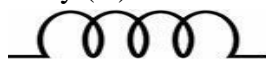

Fig. 1.5: Symbol of Inductor
When current flows through a coil, it generates a magnetic field. This magnetic field reacts so as to oppose any changes in current. This reaction of the magnetic field of trying to keep current flow at steady rate is known as inductance and the force it develops is called induced emf. an electronic component producing inductance is called an inductor. Fig. 1.5 shows symbol of inductor. Inductance is measured in Henry (H).